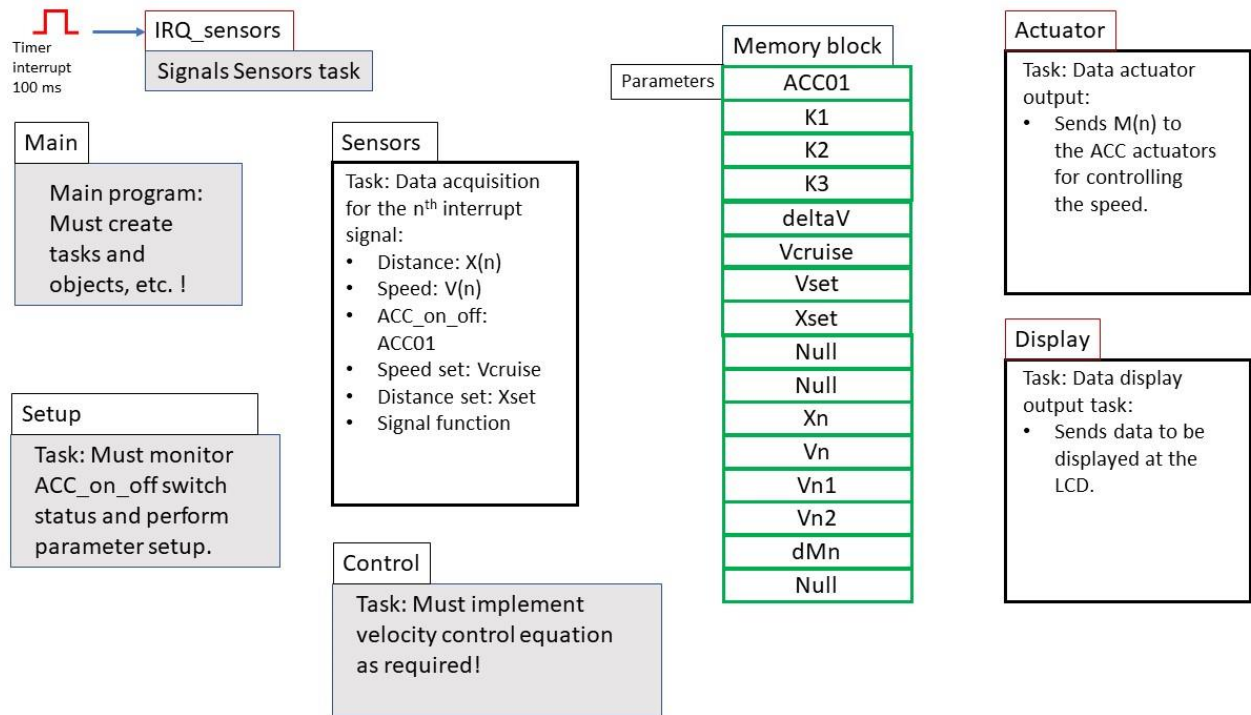

Figure 1. Tasks and data structure for the ACC system. You must also choose appropriate task priorities for your system and justify your choices.
Requirement 3 [3 marks]. In this requirement, you need to identify the tasks’ type (hard, soft, cyclic, event; see slides of ENGG4420 lectures for a reference example). Your system should have, at minimum, the following tasks: setup, ISR, sensors, control, actuator, and display (See Figure 1 below). Of course, you can add more tasks if required, as these tasks outlined here would be only the core tasks.
- a. When the semaphore (or flag) is posted, the sensors’ data acquisition task executes and reads the distance sensor, the speed sensor, and all the other sensors, shown in Figure 1, as appropriate. The current cycle readings from these sensors $X(n)$ and $V(n)$ (distance and speed, respectively) are stored in a parameter memory block (note that you might need to use a mutex to protect access to this block). This task can update the memory block and signal to the control task that new data is posted or use a queue to communicate the new data to the control task. After collecting the sensors’ readings and communicating to the control task, this task waits for the next collection cycle.
Requirement 4 [4 marks]. Software implementation in uC/OSS-III. In this requirement, you are required to present a general uC/OS-III code for the ACC system, taking as reference the example illustrated in ENGG4420 lectures. Specifically, the data structure and the main tasks are shown in Figure 1. However, you are only required to implement in detail the **control task**. All other tasks, including the main program, should only show pseudo-code and the main uC/OS-III call functions that you might use to achieve the proper functionality of the system. For example, your main program should include the OSInit (), OSStart(), and all necessary functions call (initializations, objects creation, task creation, etc.) for multitasking. Similarly, for the ISR routine, you need to present only pseudo-code and show the post function you utilize. Note that the data structure of Figure 1 contains a mixture of variables and parameters with their significance outlined below. You also need to choose appropriate priorities for your tasks and briefly justify your choices.